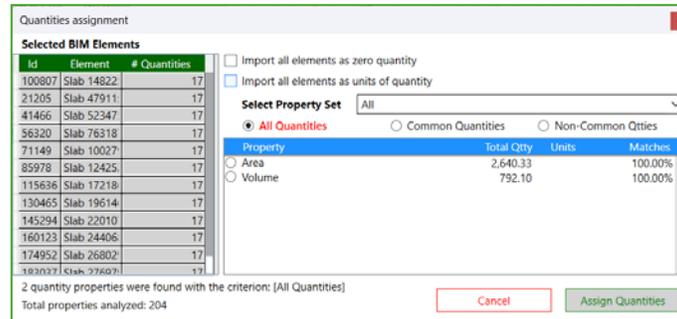

Figure 31 Quantity Property assignment dialog
4. Choose the option [Assign selected BIM elements], and the dialog of Figure 31 for establishing the quantity property will appear.
3. Choose the option [Assign by Crossed criteria], and the dialog of Figure 31 for establishing the elements selection criteria will appear (Figure 34).